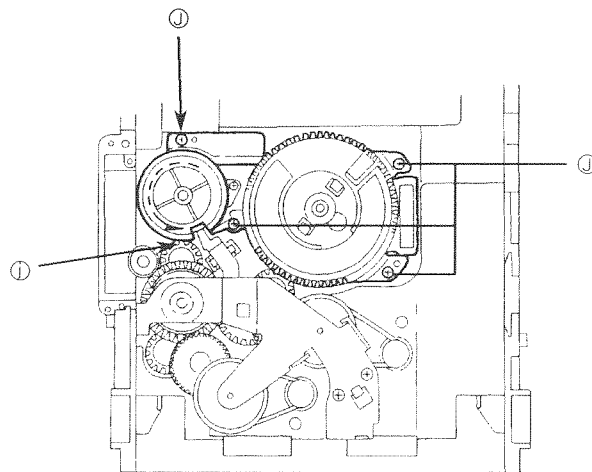

Fig. 43
4. Rotate the Cam gear L so that the select gear's ⑦ is positioned as shown in Fig.43.
5. Remove 4 screws ⑧ securing the cam unit which includes the cam gear L and Cam R1, R2 ass'y. (See Fig 43.)